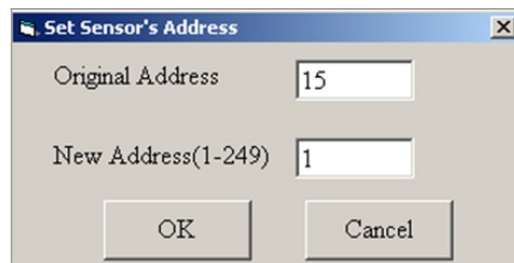

FIGURE 39: Set a Sensor's Address Form
1. Enter the Original Address followed by the New Address, then select **OK**. In Figure 39, the sensor address is being updated from 15 to 1.